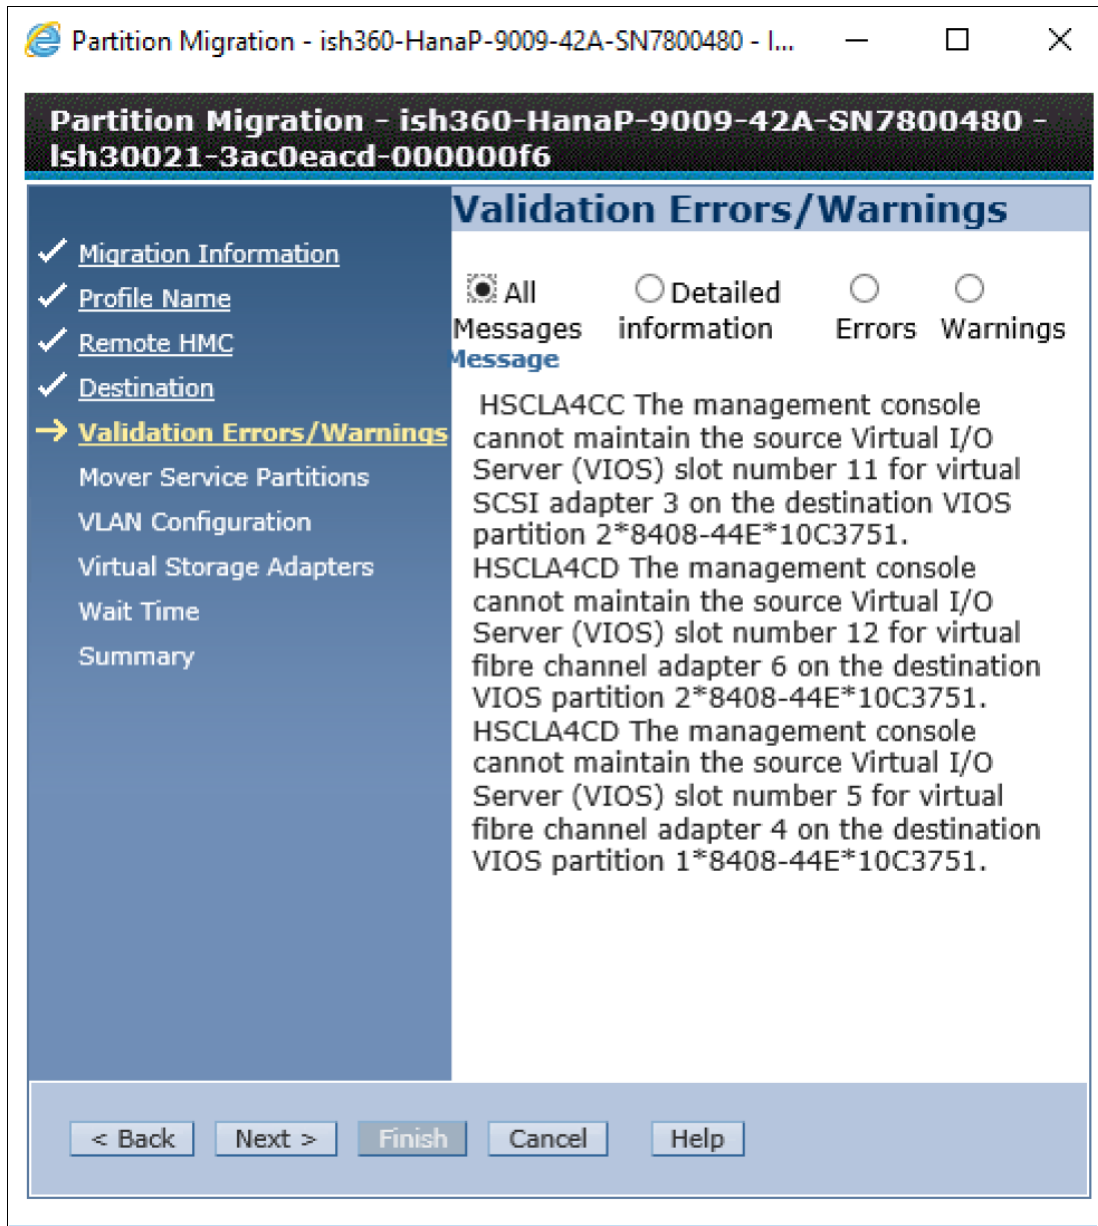
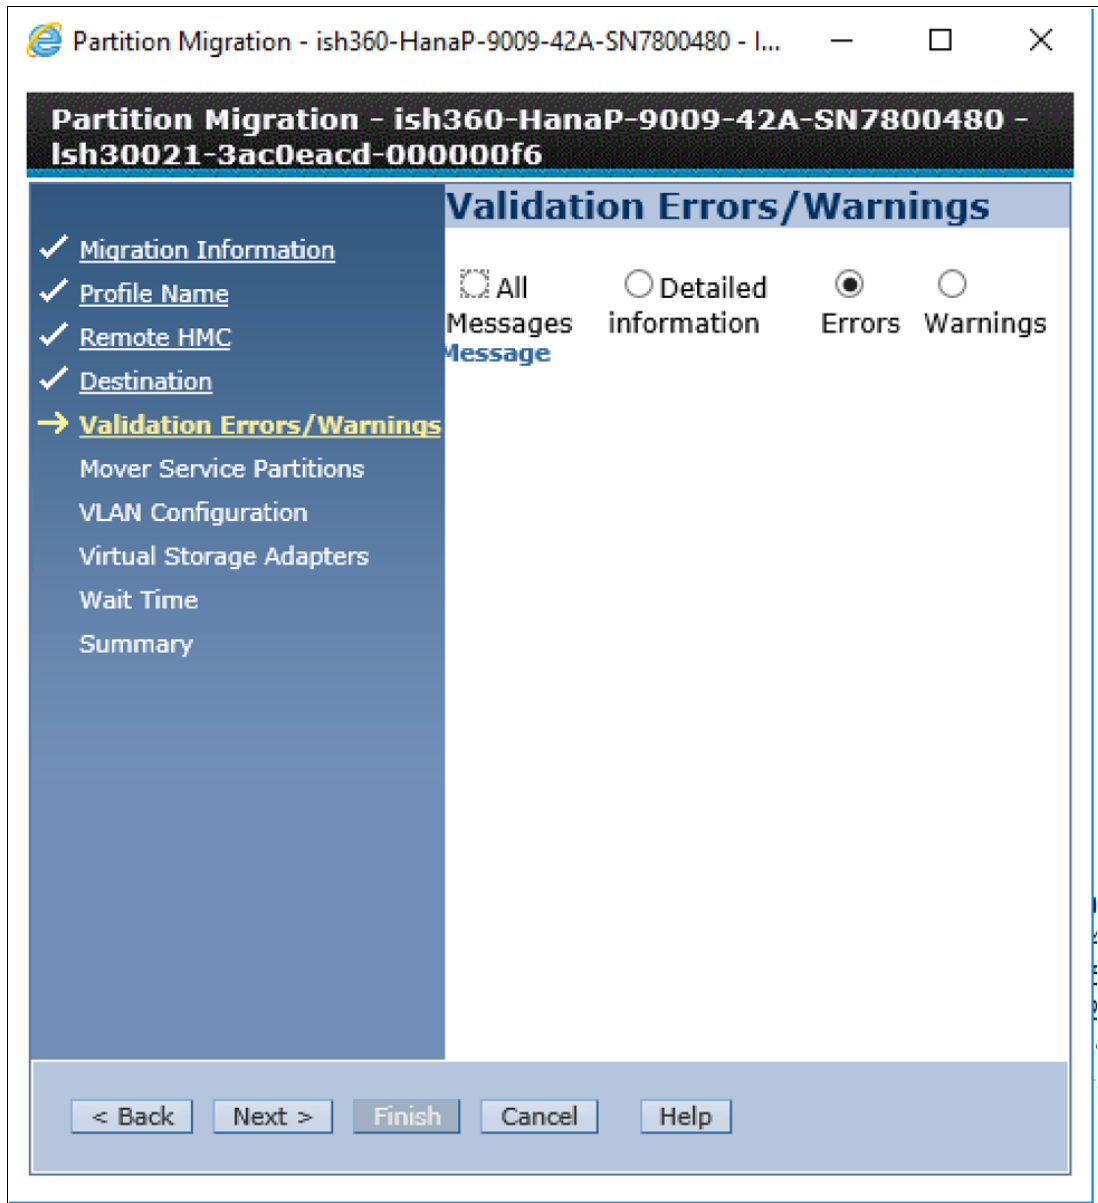

Figure 3-18 Partition Migration: Validation of errors and warnings
Figure 3-19 Validation Errors/Warnings window: Errors
- The Validation Errors/Warnings step runs through many tests to check whether an LPM can be run successfully, as shown in Figure 3-18. If this step indicates an error, an LPM cannot be performed between the systems. Carefully evaluate the situation and correct any errors.
Figure 3-18 on page 37 and Figure 3-19 indicate no errors, but show a few warnings. This case does not prohibit a successful migration.